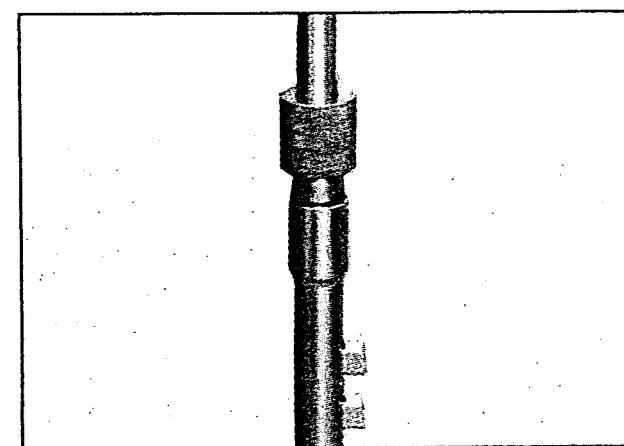

Fig 6.34
- Install the oil seal in the outer tube by using the special tool (fig 6.34)